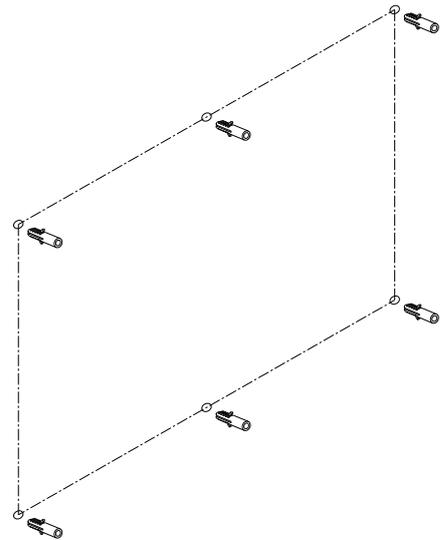

Fig. 3
- Take away the bracket and then drill 6/8/10pcs  $\Phi$  8 holes on the wall. Put the plastic wall plug into the hole. (Fig. 3) If the wall is solid wood, it is no needed to drill the holes on the wood and no needed of the plastic wall plug.